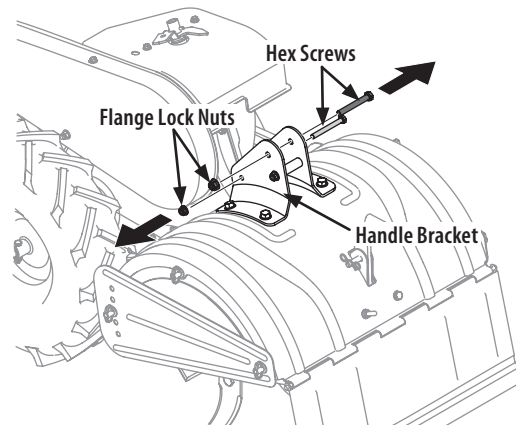

Figure 2
1. Remove the top two bolts and flange lock nuts from the handle mounting brackets, but do not remove the bottom bolt and nut. See Figure 2.